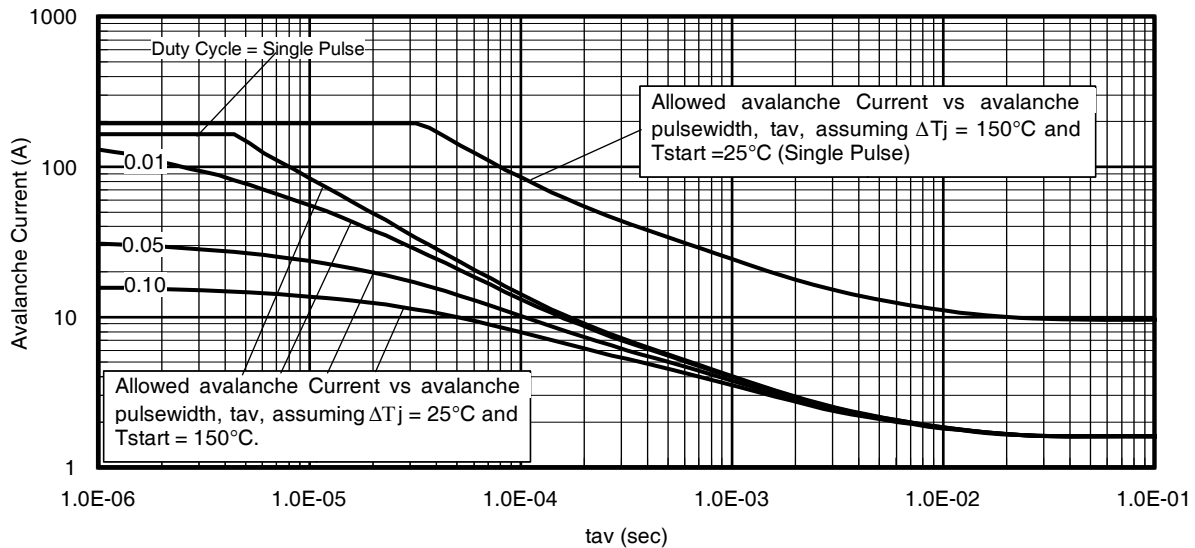

Fig 14. Typical Avalanche Current vs. Pulsewidth
- ④ $I_{SD} \leq 165A$, $di/dt \leq 430A/\mu s$, $V_{DD} \leq V_{(BR)DSS}$, $T_J \leq 175^\circ\text{C}$.
- ⑤ Pulse width $\leq 400\mu s$; duty cycle $\leq 2\%$.
- ⑥ $C_{oss \text{ eff. (TR)}}$ is a fixed capacitance that gives the same charging time as C_{oss} while V_{DS} is rising from 0 to 80% V_{DSS} .
- ⑦ $C_{oss \text{ eff. (ER)}}$ is a fixed capacitance that gives the same energy as C_{oss} while V_{DS} is rising from 0 to 80% V_{DSS} .
- ⑧ When mounted on 1" square PCB (FR-4 or G-10 Material). For recommended footprint and soldering techniques refer to application note #AN-994.
- ⑨ $R_{\theta J}$ is measured at T_J approximately 90°C .
- ⑩ Limited by T_{Jmax} , see Fig. 14, 15, 22a, 22b for typical repetitive avalanche performance.
- ⑪ $R_{\theta JC}$ value shown is at time zero.
Notes on Repetitive Avalanche Curves , Figures 14, 15:
7. ΔT = Allowable rise in junction temperature, not to exceed T_{jmax} (assumed as 25°C in Figure 14, 15).